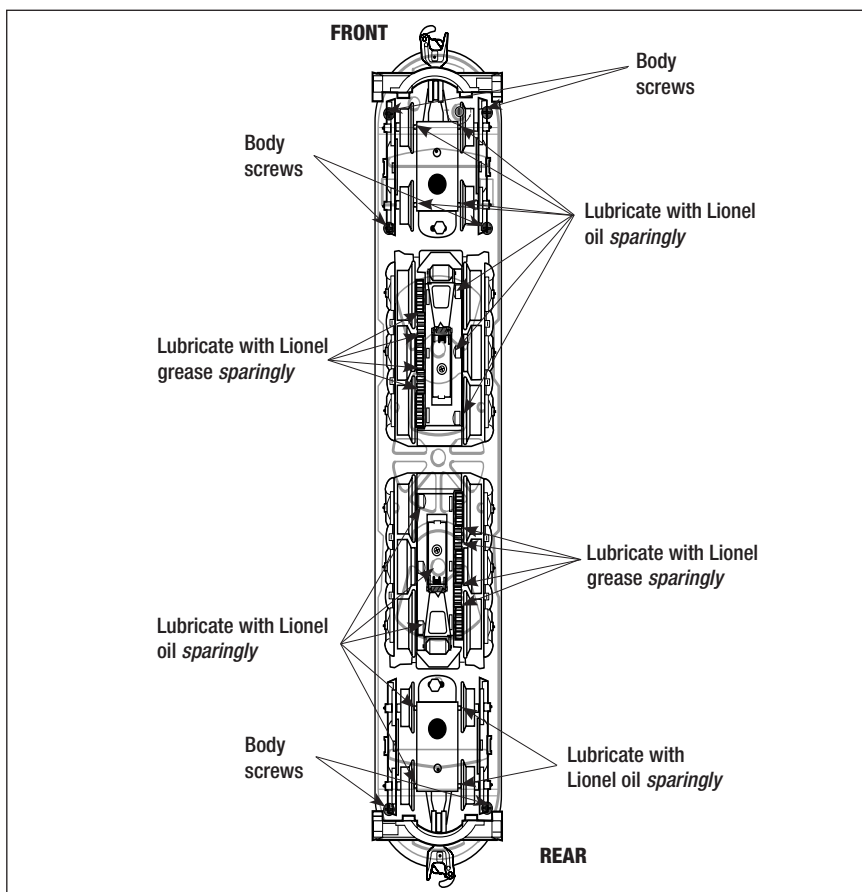

Figure 4. Underside details and lubrication points
For prototypical operation with the pantographs, remove the body screws from the underside of the locomotive and lift the body from the frame. See Figure 4 on page 10 for the location of the body screws. An adult should cut and splice a wire from one of the collector leads to the rear pantograph. The pantograph in the rear should be raised to collect power.
When you find that the lubrication points illustrated in Figure 4 appear dry, lubricate your locomotive after you have removed any accumulated dirt and dust. There are two basic rules to keep in mind when you are lubricating your locomotive: use only a small amount of lubrication and avoid getting grease or oil on your locomotive's wheels, roller pick-ups, or the track.
1. Remove the locomotive's six body screws. See Figure 4 on page 10 for the screw locations. Carefully lift the shell away from the frame.